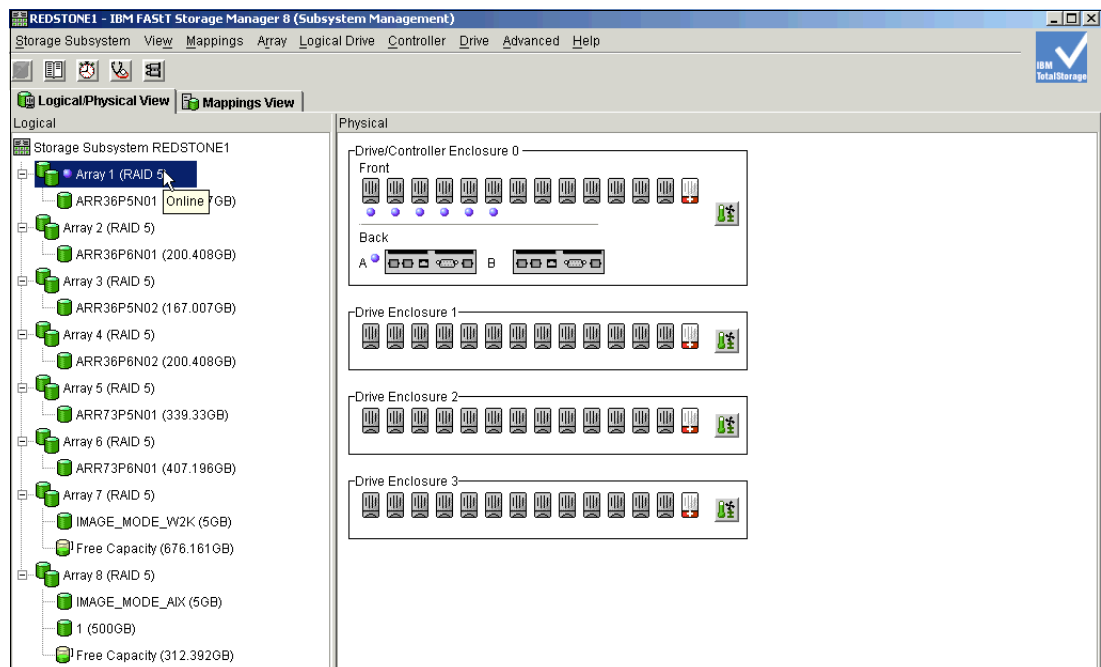

Figure 3-21 Array 1
3. We defined one storage partition in the FAST with all of the SVC node ports defined, with one host partition with eight ports. See Figure 3-21.